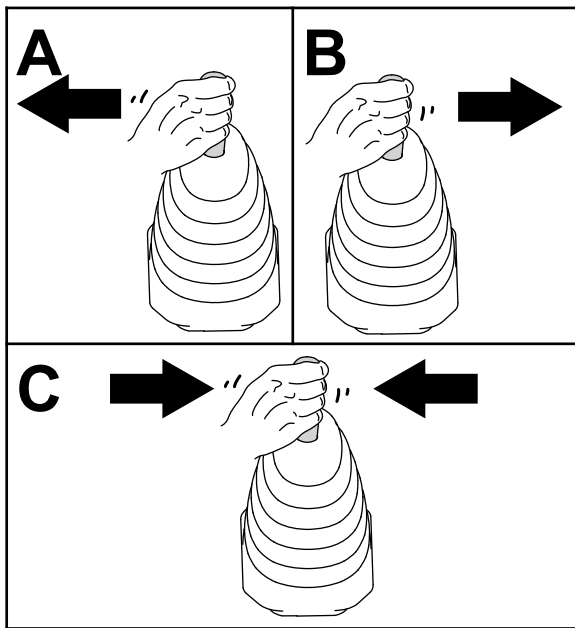

Figure 47
- Move the loader joystick to the left, right, and back to the NEUTRAL position to relieve pressure at the hydraulic couplers (Figure 47).